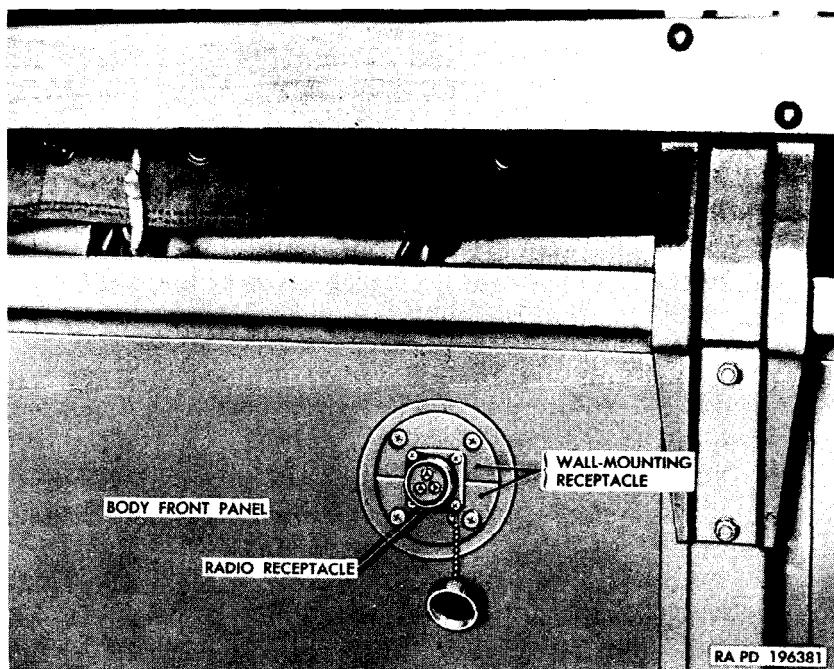

Figure 148. Radio receptacle in body front panel.
- (1) Disconnect the ground cable from the negative (−) post of the outer battery, and remove the radio receptacle cable from the terminal.
- (2) Disconnect the other receptacle cable terminal from the positive (+) terminal of the inner battery.
- (3) Disengage the cable from the cable clip in the driver's compartment.
- (4) Remove the four small screws that secure the radio receptacle to the wall mounting receptacle (fig. 148) and pull the receptacle and cable from the mounting receptacle. Remove the four screws that secure the mounting receptacle to the body front panel, and remove the receptacle.
- (1) Thread the receptacle cables through the receptacle opening in the body panel and through the weatherseal in the cab rear panel.
- (2) Fit the two sections of the wall mounting receptacle on the body panel and install the four $\frac{1}{4}$ -28NF x $\frac{3}{4}$ roundhead lock-washer screws. Position the radio receptacle (fig. 148) and install the four No. 8-32NC x $\frac{3}{8}$ lockwasher screws, attaching the cover chain with one of the screws.
- (3) Connect the radio receptacle positive (+) cable terminal to the positive (+) terminal of the inner battery, and the negative (-) terminal to the negative (-) terminal of the outer battery.
- (4) Connect the ground cable to the negative (-) post of the outer battery.